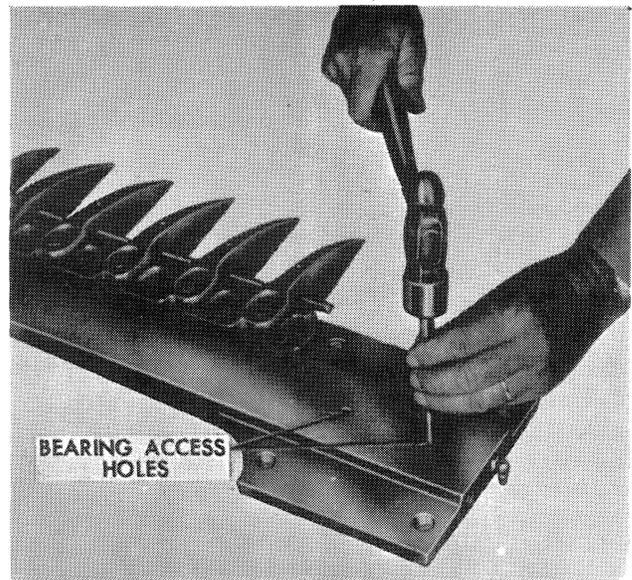

Figure 10
8. Inspect the cutter bar bearing. If the bearing is worn or rotates roughly, remove it by tapping it with a punch through the two bearing access holes located on the underside of the cutter bar, Figure 10. Lightly tap a new bearing into place.